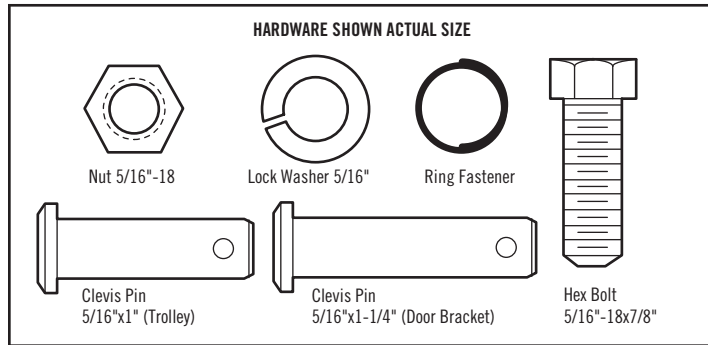

Figure 5
**IMPORTANT:** The groove on the straight door arm **MUST** face away from the curved door arm (Figure 5).
- Slide a 1/4"-20 x 1/2" carriage bolt head into the slot on each sensor. Use wing nuts to fasten sensors to brackets, with lenses pointing toward each other across the door. Be sure the lens is not obstructed by a bracket extension (Figure 5).